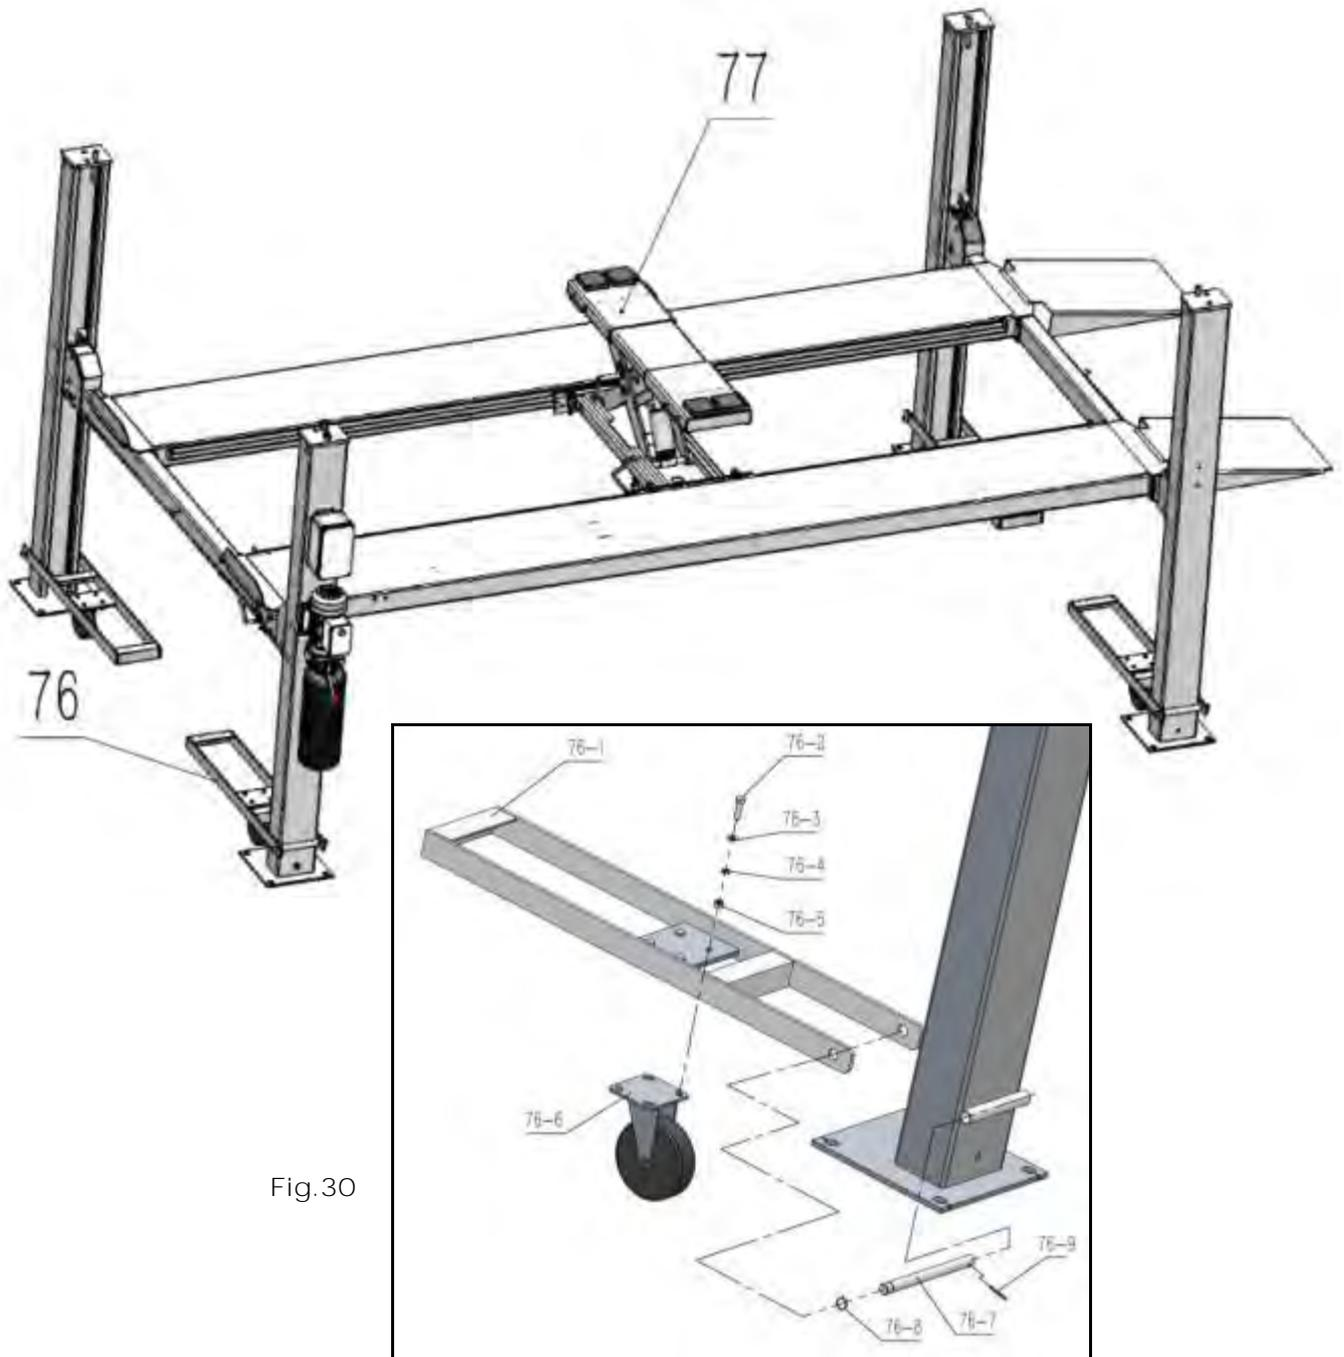

Fig.30
1. Install optional caster kits or jack(assembly body)-----optional (See Fig. 30)